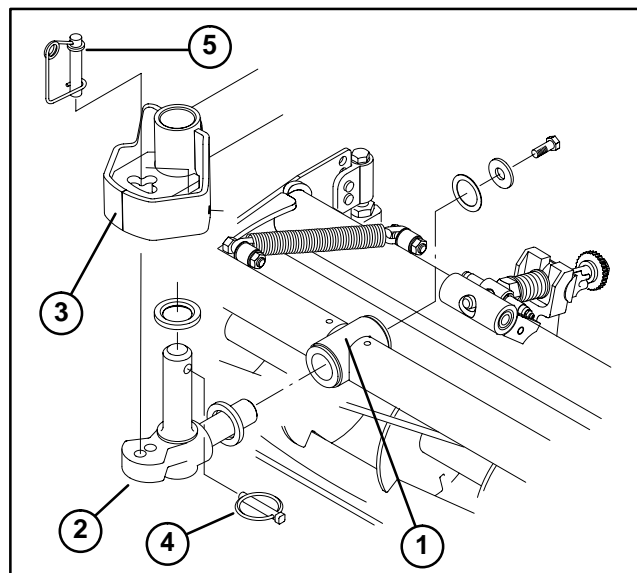

Figure 32
6. Insert a thrust washer onto horizontal shaft of pivot knuckle as shown in figure 32.
7. Insert the horizontal shaft of the pivot knuckle into the mounting tube of the carrier frame (Fig. 32).
8. Secure pivot knuckle to carrier frame with a thrust washer, flat washer and a flange head capscrew (Fig. 32).
9. Insert a thrust washer onto vertical shaft of pivot knuckle (Fig. 32).
10. Insert the vertical shaft of the pivot knuckle into lift arm pivot hub (Fig. 32). Guide the pivot knuckle in place between the two rubber centering bumpers in the under side of the lift arm steering plate.
11. Insert the lynch pin into the cross hole on the pivot knuckle shaft (Fig. 32).
17. Insert steering pin into one of the following pivot knuckle mounting locations (Fig. 32):
18. Hook spring wire around bottom of steering pin (Fig. 32).